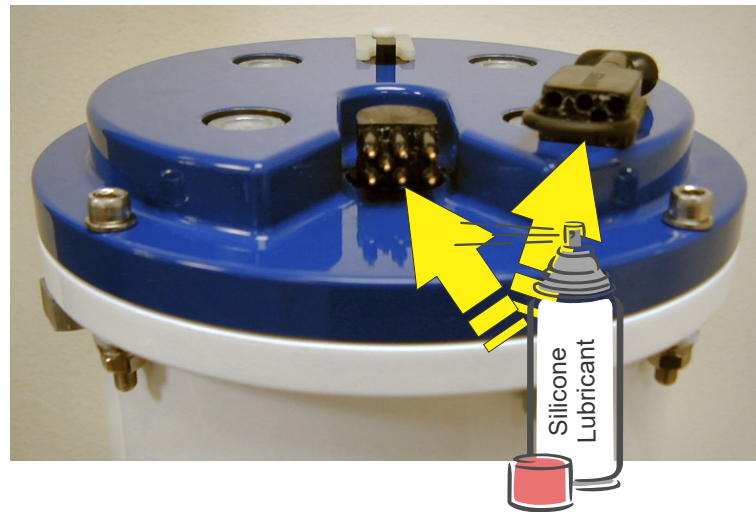

Figure 8. Removing the I/O Cable
2. Grasp the cable close to the housing (see Figure 8). Your thumb should rest on top of the connector or against the edge of the housing. *Do not try to fit your hand under the cable as it passes over the housing.* This is what causes the upward force!